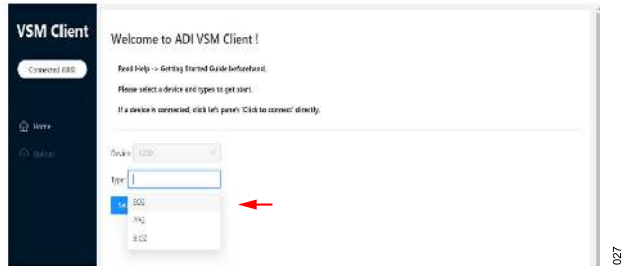

Figure 27. Select Function
5. From the **Type** dropdown menu, select one of three functions: **ECG**, **PPG**, or **BIOZ** (see Figure 27). Click **Select** to enter the configuration interface.